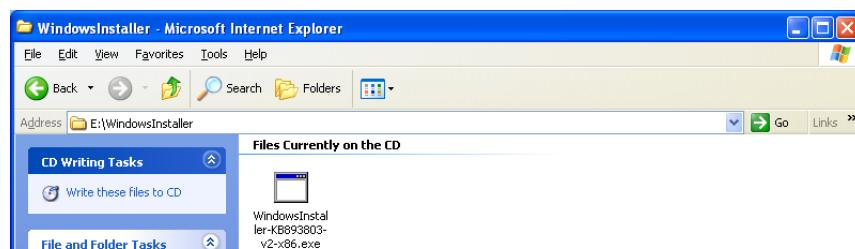

Fig.2-2 Windows Installer 3.1 installation
- 5 Return to the browser window shown in Fig.2-2 and click the **Back** button.